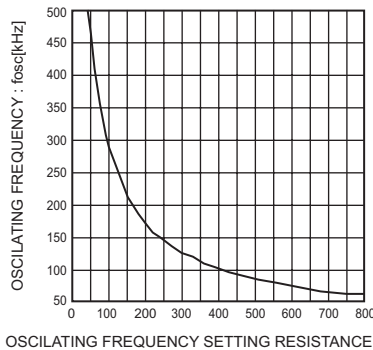
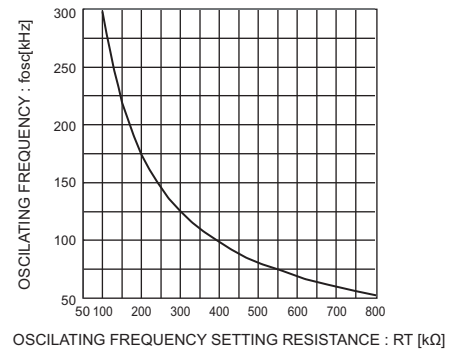

Fig.34 RT vs fosc (BD9781HFP/BD9778F/HFP)
Fig.35 RT vs fosc (BD9001F)
6. Setting of oscillation frequency Referring Fig. 34 and Fig. 35 on the following page, select R for the oscillation frequency to be used. Furthermore, in order to eliminate noises, be sure to connect ceramic capacitors of 0.1 to 1.0 μF in parallel.